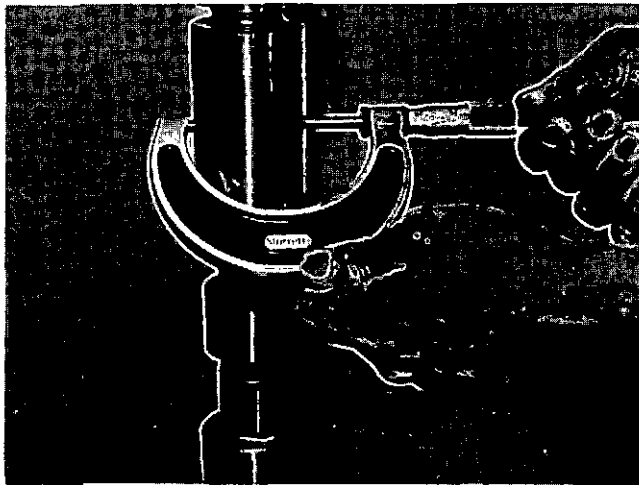

Fig. 1-10-1, V40134. Measuring camshaft journals
2. Check camshaft journals with micrometers. Fig. 1-10-1.